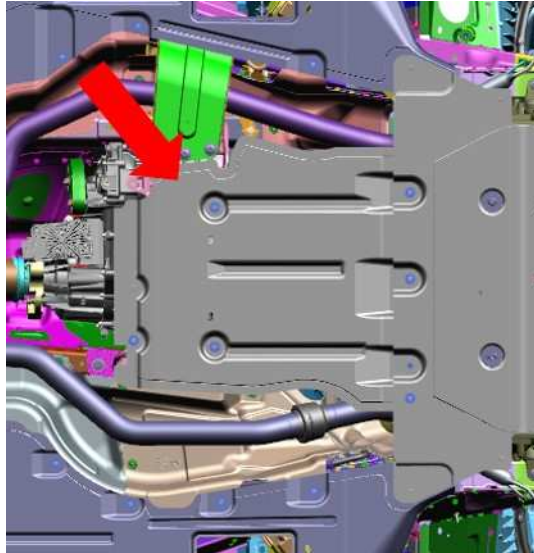

Fig. 1
2. Remove the transmission belly pan (Fig. 1) . Refer to the detailed service procedures available in DealerConnect> Service Library under: Service Info> 13 - Frame and Bumpers / Under Body Protection / Belly Pan / Removal and Installation.
2. Install the transmission belly pan (Fig. 1) . Refer to the detailed service procedures available in DealerConnect> Service Library under: Service Info> 13 - Frame and Bumpers / Under Body Protection / Belly Pan / Removal and Installation.